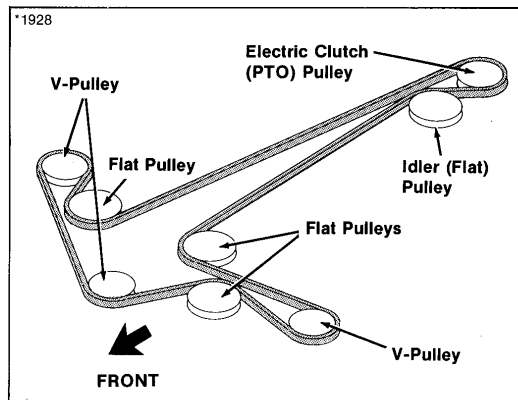

Figure 32. Mower Belt Pattern
- g. Check belt pattern as shown in figure 32. Make sure mower belt goes underneath rider **over the drive axle**.